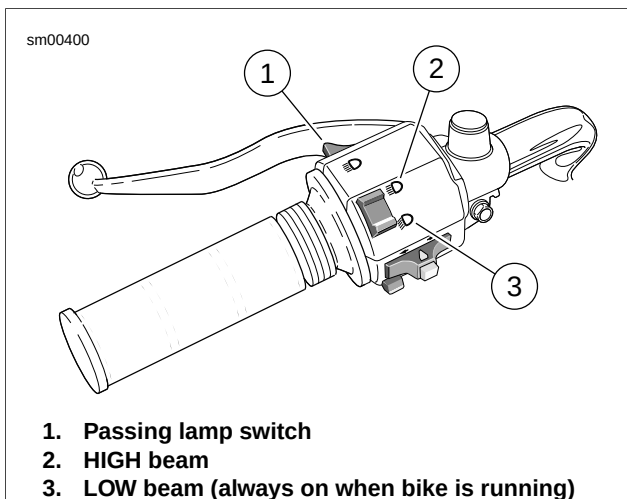

Figure 7-59. Headlight Controls
- b. See Figure 7-59. Check headlight LOW beam (3) and HIGH beam (2) settings.
- c. Set headlight to LOW beam. Press passing lamp switch (1). Headlight should flash HIGH beam for as long as the switch is pressed.